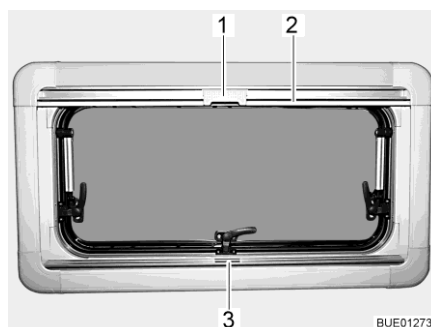

Fig. 105 Hinged window
- Grip the Roman shade in the centre of the holding bar (Fig. 105,3), pull it from the bottom to the top and then release it at the desired height. The Roman shade will stay at this height.
- Pull the insect screen down using the holding bar (Fig. 105,2), until it touches the holding bar of the Roman shade (Fig. 105,3).
- Clip the catch (Fig. 105,1) on the insect screen into the handle of the Roman shade.
- Push the catch (Fig. 105,1) on the insect screen inwards.
- Move the insect screen back slowly on the holding bar (Fig. 105,2).